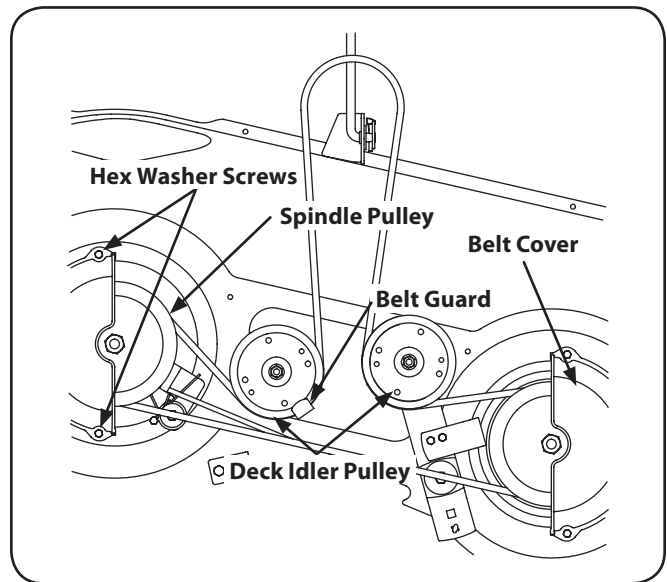

Figure 7-9
2. Remove the belt covers by removing the hex washer screws that fasten them to the deck. See Fig. 7-9.
4. Carefully remove the deck belt from around the two spindle pulleys and the two deck idler pulleys. See Fig. 7-9.
3. Loosen, but do not remove the belt keeper rod on the pulley located near the back of the deck. See Fig. 7-9.